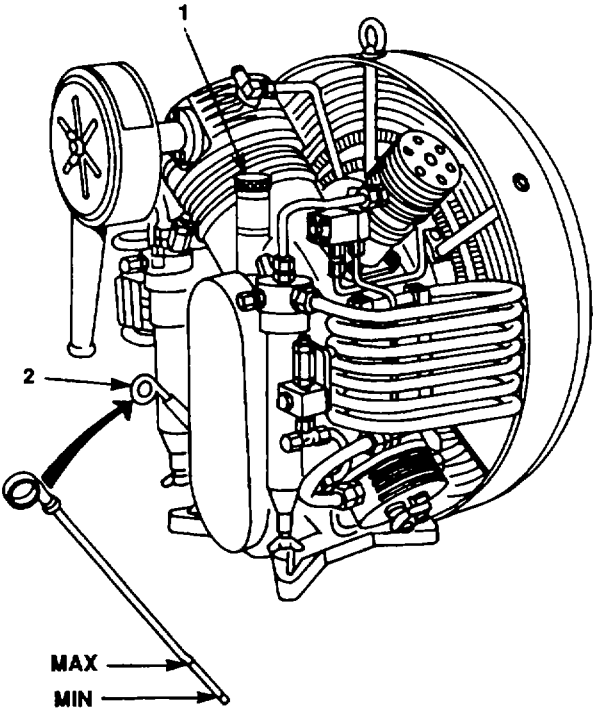
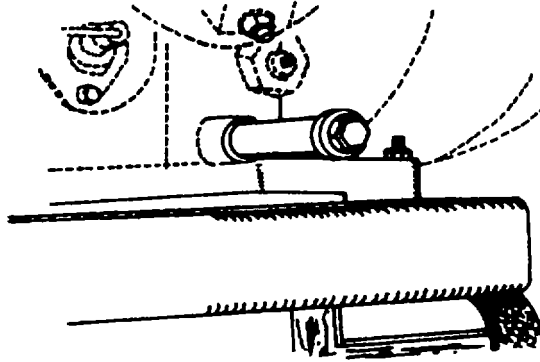

Figure 3-5. Compressor Block
Figure 3-6. Oil Drain Plug
- 1. Pull oil dipstick out, located at the rear of the compressor (2, figure 3-5).
1. To drain compressor oil, remove plug (figure 3-6) from drain pipe located on the side of the compressor.
2. Insert plug (figure 3-6) and add new oil through oil filler (1, figure 3-5).